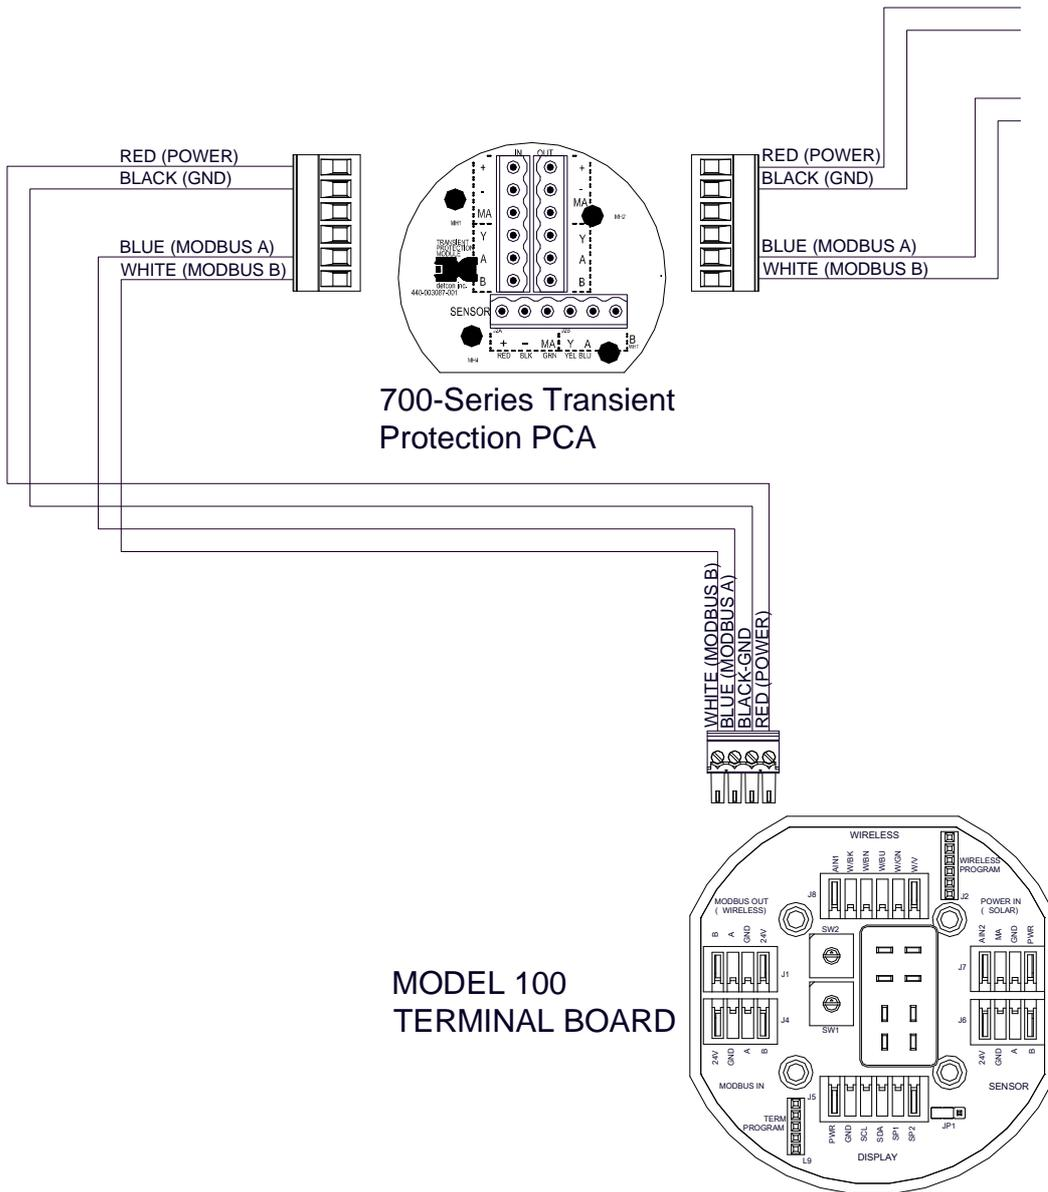

Figure 11 Wiring Diagram for Remote RXT-320 Transceiver Mounting
A custom extension cable needs to be built per Figure 11 to interface the remote transceiver to the Model 100 Terminal Board. The recommended cable for remote transceiver separation is Belden 1421A (24AWG shielded twisted pair, 4 pairs w/drain wire).
6. Remove all 6 of the 4-pin phoenix connectors from the 12-position terminal board in the remote J-Box and connect the RXT transceiver wires to 3 of the phoenix connectors per the wiring diagram in Figure 11. Reference Table 2 **RXT-320 Transceiver Wire Identification** for color code identification.
9. Connect the cable wires of the extension cable to the remaining three 4-pin phoenix connectors from step 6 per the wiring diagram in Figure 11. Reference Table 1 **Extension Cable Wire Identification** for color code identification.
13. Connect the cable wires to the 6-pin phoenix connector from step 3 per the wiring diagram in Figure 11. Reference Table 1 **Extension Cable Wire Identification** for color code identification.